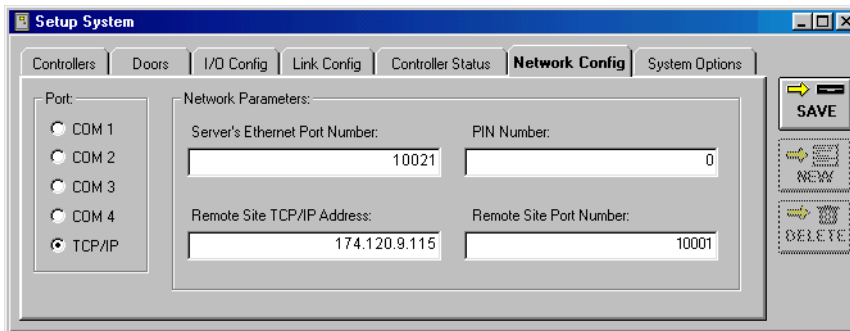

Figure 38: Doors TCP/IP Settings
1. Check the IP address and port number (see Figure 38).